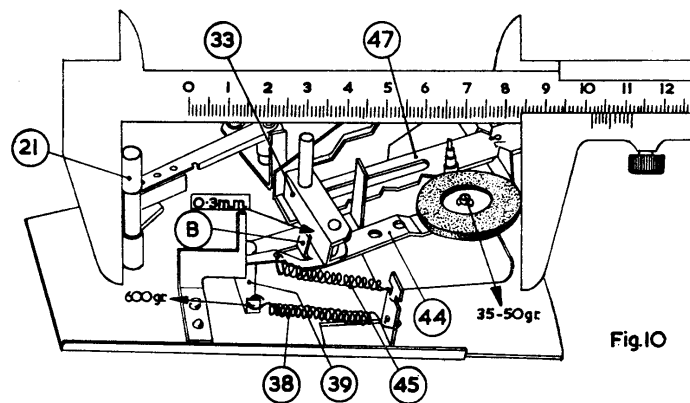

Fig. 10
- (b) The pressure of the idler wheel against the pulley should be 35-50 grams (see Fig. 10). If the pressure is above 50 grams, spring 45 should be carefully stretched, and if below 35 grams the spring should be shortened.
- (d) In the 78 r.p.m. position with the switch lever in the "on" position, lip B of the idler wheel bracket 44 should be at least 0.3 mm. from the U bracket 33 (see Fig. 10). When making this check it is necessary for the idler wheel to be in the same position as when the turntable is fitted, and for this purpose a pair of vernier calipers will be required. Set the calipers to 101.5 mm. and place them over the turntable spindle and the idler wheel as shown. If necessary, adjustment can be made by bending lip B of the idler wheel bracket.
- (g) Spring 38 provides the tension between the locating bracket 39 and the speed selector lever 47 in the respective speed positions. The tension of spring 38 when measured as shown in Fig. 10 should not be more than 600 grams.